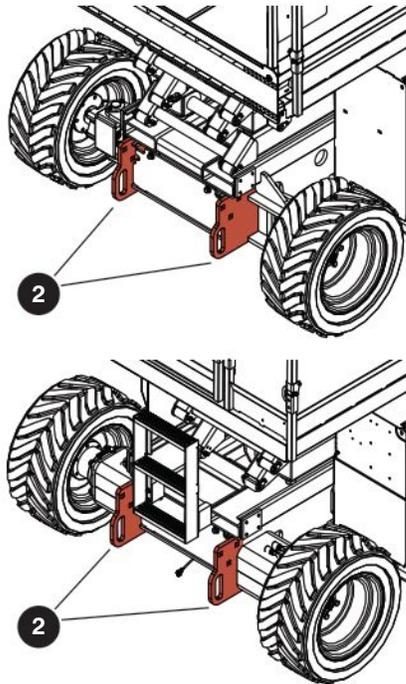

Figure 07 Tie-downs/lift points
- Attach the rigging to all **four lift points 1**. Refer to Figure 07.